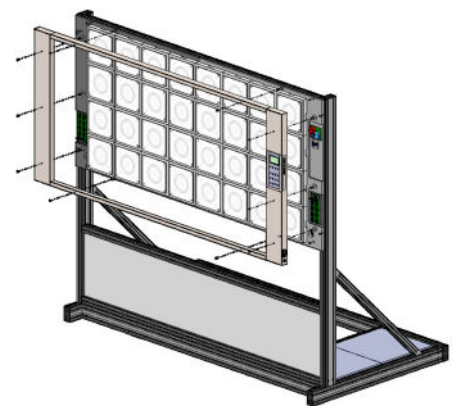

Fig. 3.1-31
Step 28 The side frame parts **B1 and B2** and/or the top and bottom frame parts **B3** are to be screwed together with the threaded sleeves of the touch pads (**Fig. 3.1-31**). To do this, use the 10 **M6x10** oval head screws provided. Remove the protective foil on the frame parts before screwing the frame parts tightly.